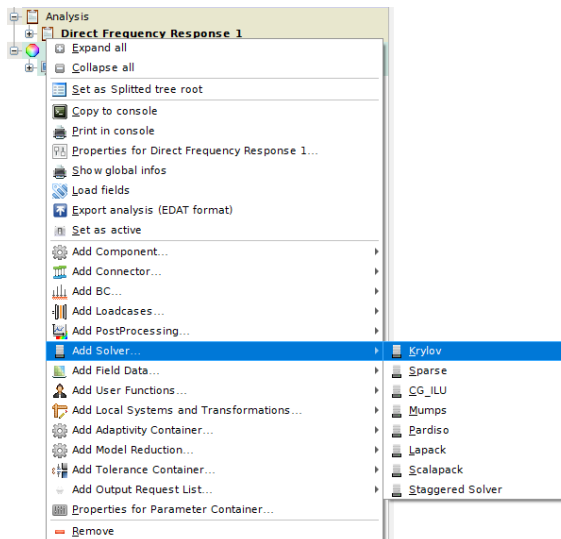

Figure 6.28: Select the Krylov solver
- Right-click on the Solver and add a Krylov solver (Figure 6.28);